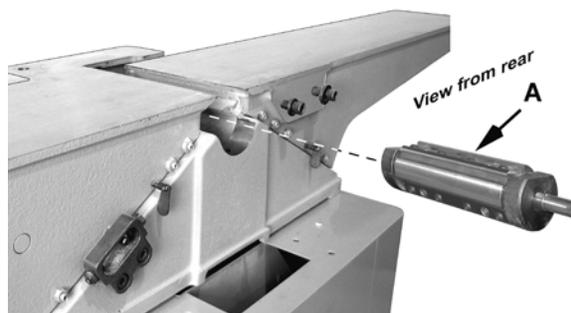

Figure 51
9. Using a 3mm hex wrench, loosen two set screws that secure the cutterhead pulley (D) to the cutterhead shaft. Do not attempt to remove pulley with belt at this time.
11. Carefully remove the cutterhead (A, Fig. 51).